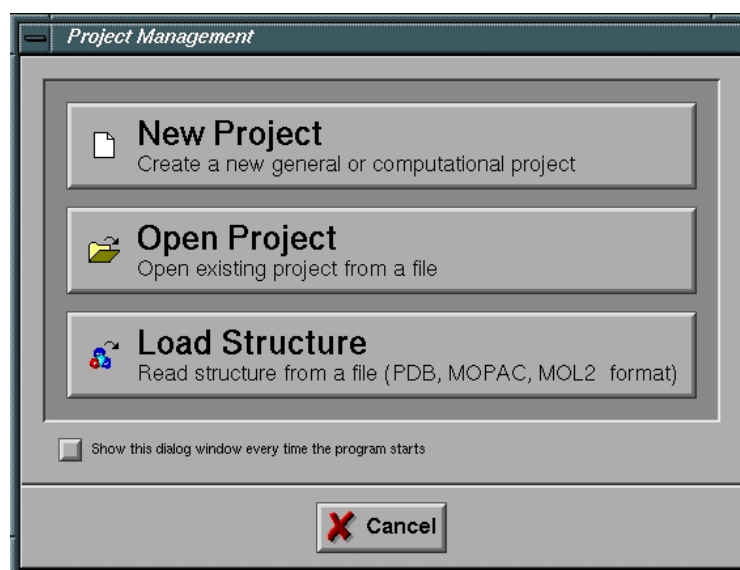

Fig 13.2 Window for project management.
- 2) Select the *New Project* button to create a new project (**Fig 13.2**).